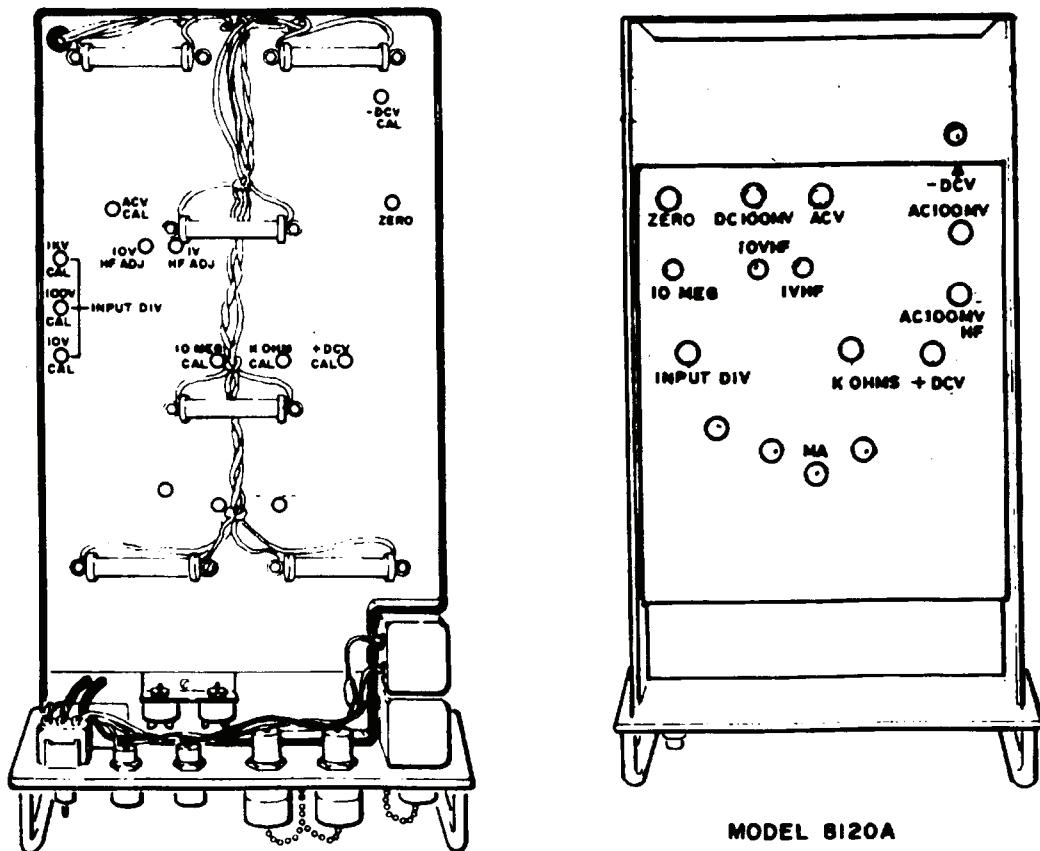

Figure 1. Test instrument - bottom view.
- e. Short **INPUT HI** and **LO** terminals. If TI does not indicate between +.0001 (+00.01) and -.0001 (-00.01) adjust ZERO (fig. 1) (for model 8120A, adjust DC ZERO (front panel) control to center range, and adjust ZERO (fig. 1) until TI indicates .0000 (00.00).